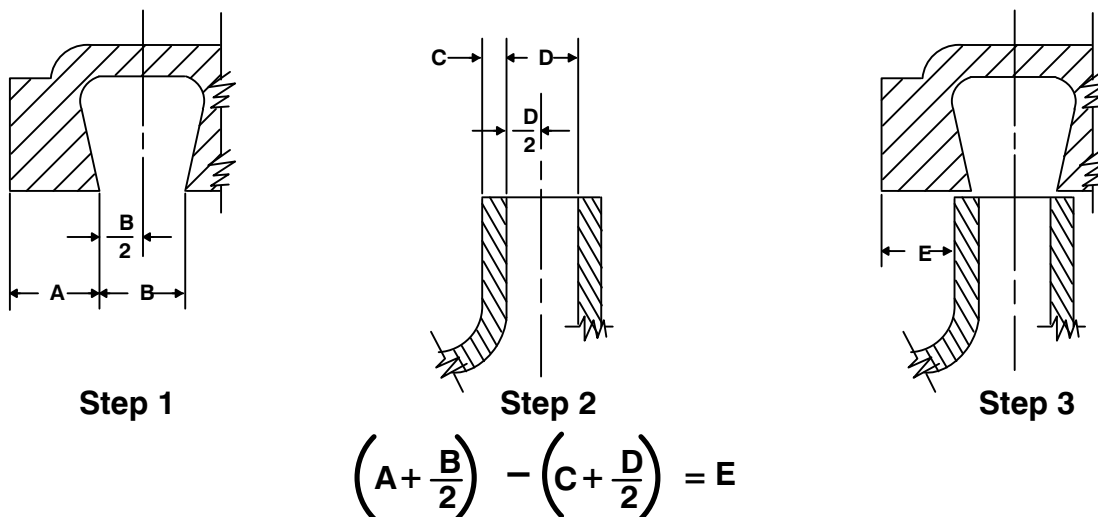

Figure 3. Centering Impeller Within Volute Scroll
To verify the impeller positioning, measure the pump casing and impeller as shown in Figure 3. Use these measurements to calculate the required impeller location (dimension E). Add or remove gaskets in the casing gasket set (5) until dimension E is obtained.